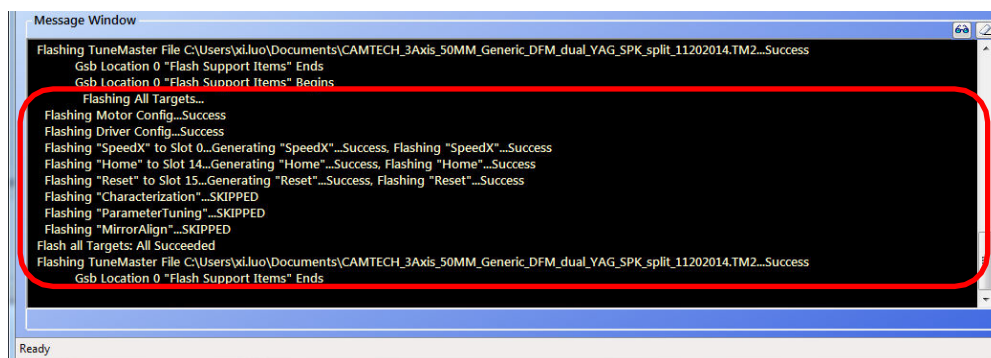

Figure 10 - Success Messages
- When the flash is complete, you will see the 'success' message in the message window (Figure 10).